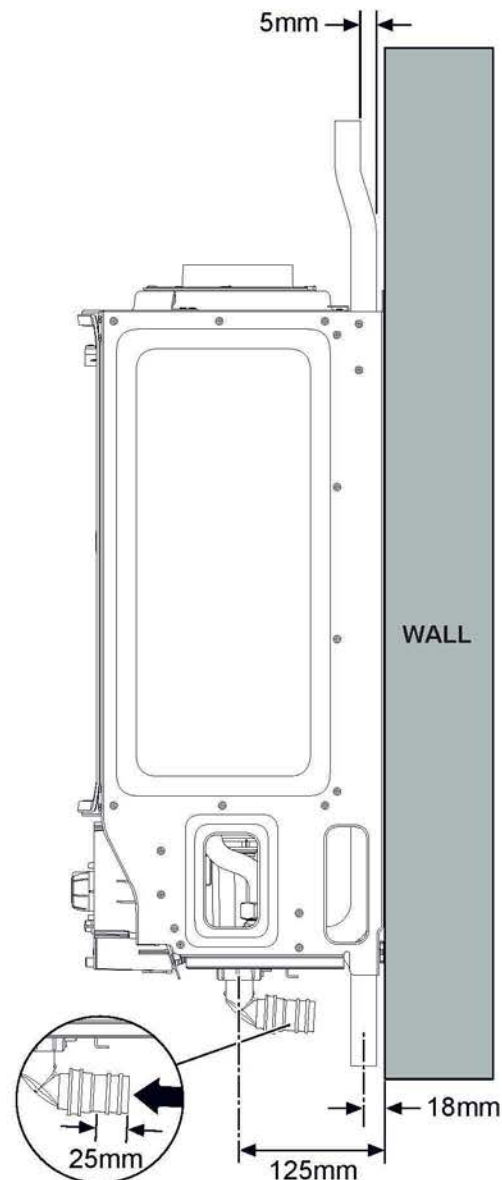

Fig. 29 Pipe work dimensions
Figure 29 gives the pipe work dimensions with respect to the mounting surface.
1. Fit washer (1) inside the plastic nut and attach firmly to the connection on the syphon.
2. Connect the condensate disposal pipe work to the elbow (2), refer to figure 29 and insert the condensate pipe 25mm into the elbow.